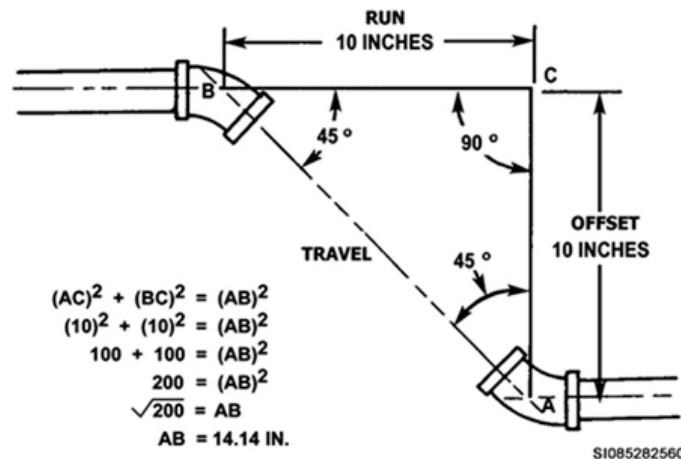

Figure 1-22. Pythagorean triangle.
If the two pipes in figure 1-22 were not parallel and were instead in-line with each other, then the distance you would need to connect them is called the run. Unfortunately, pipes are not always in-line. They are offset in this fashion to avoid obstructions.
The “travel” is a term coined to mean the *diagonal* distance between two offset pipes running parallel to each other. Figure 1-22 demonstrates this well. The travel distance is the length you have to determine prior to cutting the amount of pipe needed to join two parallel sections of pipe together.
The Pythagorean Theorem states that the “square of the hypotenuse (side opposite 90°) of a right-angle triangle is equal to the sum of the squares of the other two sides.” What? Sounds like double-talk doesn't it? Look at figure 1-22 as we try to make sense out of this.
Using the Pythagorean Theorem and its formula, we get an initial calculation of the hypotenuse (travel) expressed in a value that has been squared. To get the actual travel value that we need, the result must be square-rooted. Look at the calculation in figure 1-22. You will notice that 200 [(10)² x (10)²] is a squared value. We must have the square root of 200 in order to have a value that can be used to determine or “travel”; therefore,
Let us practice this one more time. Suppose that in figure 1-22, AC=25'' and BC=35''. What would the travel (AB) be? Using our formula as stated in the Pythagorean Theorem, let's look at this computation in the following table.